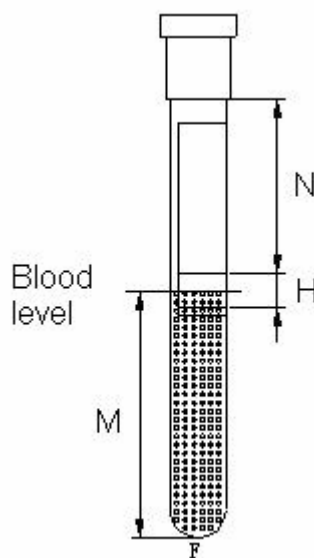

Figure 4-1
Every ESR tube has a label. The label should be attached on the tube flatly, otherwise the tube may be not able to insert into the hole or can not reach the bottom and cause wrong measuring result. The correct label position on the ESR tube is shown as figure 4-1. There are two indicating lines on the label. The distance between the two lines is 9mm, the position is shown as H in figure 4-1. The recommended position of the blood height (M) is 55mm (corresponding to 1.6ml, i.e. 0.32ml anticoagulant and 1.28ml whole blood). The blood level should reach between two indicator lines, thus the analyzer can detect the blood level correctly.
range of H. In figure 4-1, the maximum value of M is 64mm and the minimum is 50mm. This is the effective blood height.